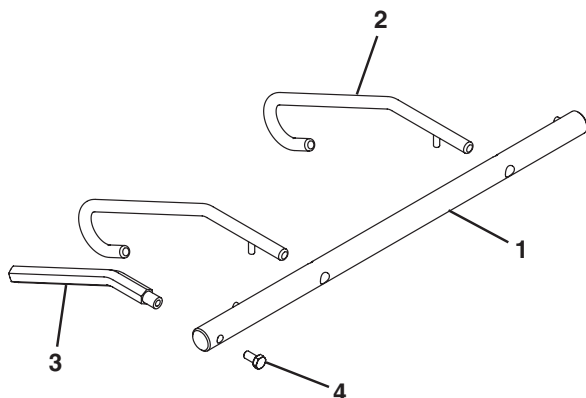

**Figure 24**
2. Place the sheet bed plates (Figure 24, item 1) over the wear strips (Figure 24, item 2).